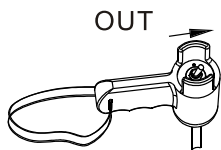

figure 11
- ◇ When wire rope comes out, the switch trigger is in the position of "Out" (See figure 11).